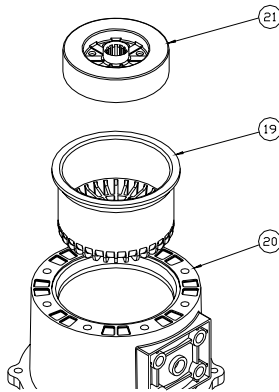

FIGURE 38
2. Insert containment canister (item 19) and driven magnet (item 21) into motor spool (item 20) as shown. The driven magnet is symmetrical and orientation does not matter. **Refer to Figure 38.**